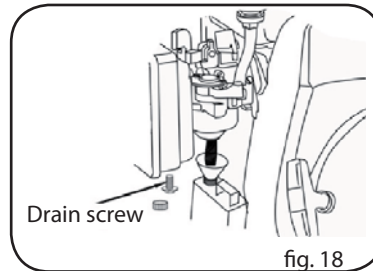

fig. 18
5. If gasoline reaching the carburetor? To check, loosen the carburetor drain screw and set the cock to the ON position (Fig. 18).